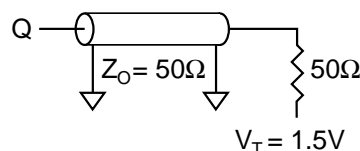

Figure 1
Output load	See Figures 1 and 2
5. Test conditions as specified with the output loading as shown in Figure 1 unless otherwise noted.